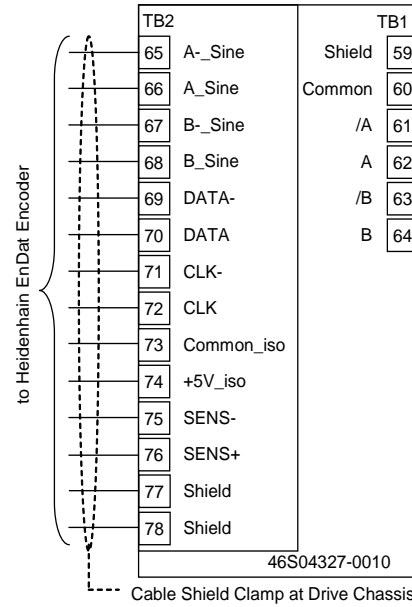

Figure 41: EnDat Encoder Connections
Connect Encoder Cable using a Heidenhain extension cable per Figure 41 and the encoder cable shield.
- Erratic movement of the motor may occur during acceleration and deceleration segments of the alignment, but constant speed operation will be smooth. If the fault **ENCDR CRC ERR**¹ is displayed, verify the encoder wiring as shown in Figure 41. Also verify JM2 is connected to position 1-2, or 2-3. Retry alignment procedure.